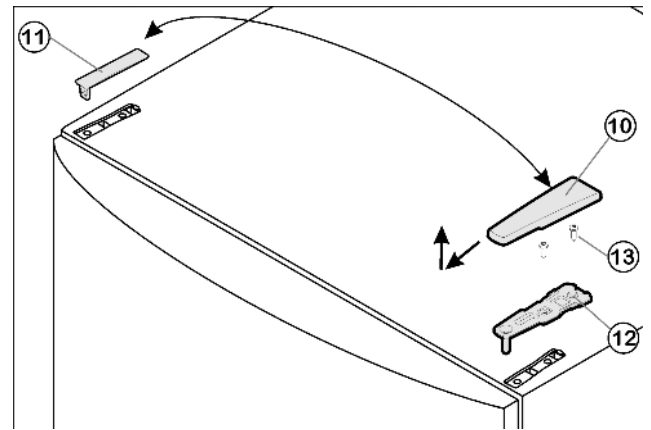

Fig. 4
- ▶ Pull off the cover Fig. 4 (10) forwards and upwards.
- ▶ Lift off the cover Fig. 4 (11).
- ▶ Unscrew the upper turn hinge Fig. 4 (12)(2x Torx® 25) Fig. 4 (13) and lift it off.
- ▶ Insert the upper turn hinge *Fig. 4 (12)* in the door on the new hinge side.
- ▶ Screw the upper turn hinge *Fig. 4 (12)* firmly into place (with 4 Nm)(2x Torx® 25) *Fig. 4 (13)*. Possibly make preliminary holes with a bradawl or use a cordless screwdriver.
- ▶ Snap the cover *Fig. 4 (10)* and cover *Fig. 4 (11)* into place at the opposite side.